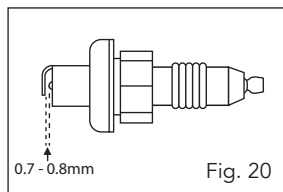

Fig. 20
4. Check the spark plug gap. The acceptable gap should be between 0.7 – 0.8mm (Fig. 20).